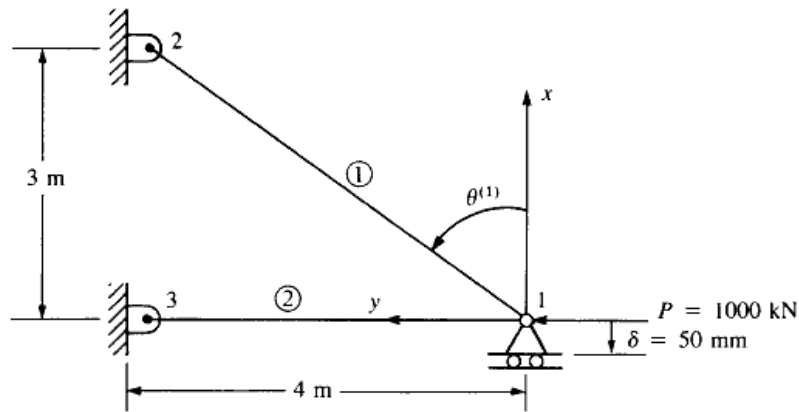

Figure 6
- Q.4 (a) For the two-bar truss shown in Figure 6, determine the displacement in the y direction of node 1 and the axial force in each element. A force of $P = 1000 \text{ kN}$ is applied at node 1 in the positive y direction while node 1 settles an amount $\delta = 50 \text{ mm}$ in the negative x direction. Let $E = 210 \text{ GPa}$ and $A = 6.00 \times 10^{-4} \text{ m}^2$ for each element. The lengths of the elements are shown in the figure. 07